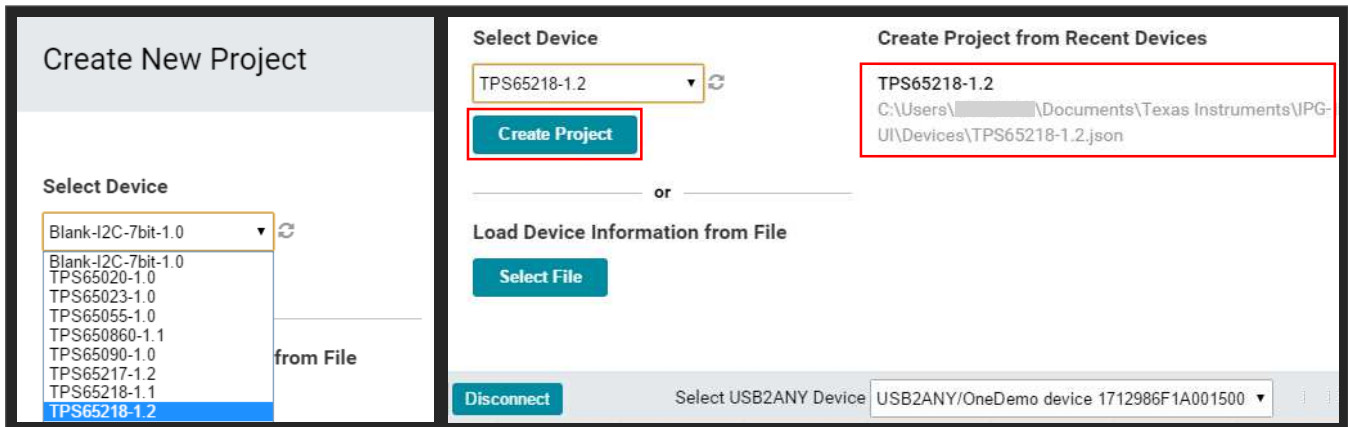

Figure 7. Creating New IPG-UI Project for the TPS65218D0
- Click the drop-down menu in the *Create New Project* section and select *TPS65218D0-spi-1.x* as shown in Figure 7.